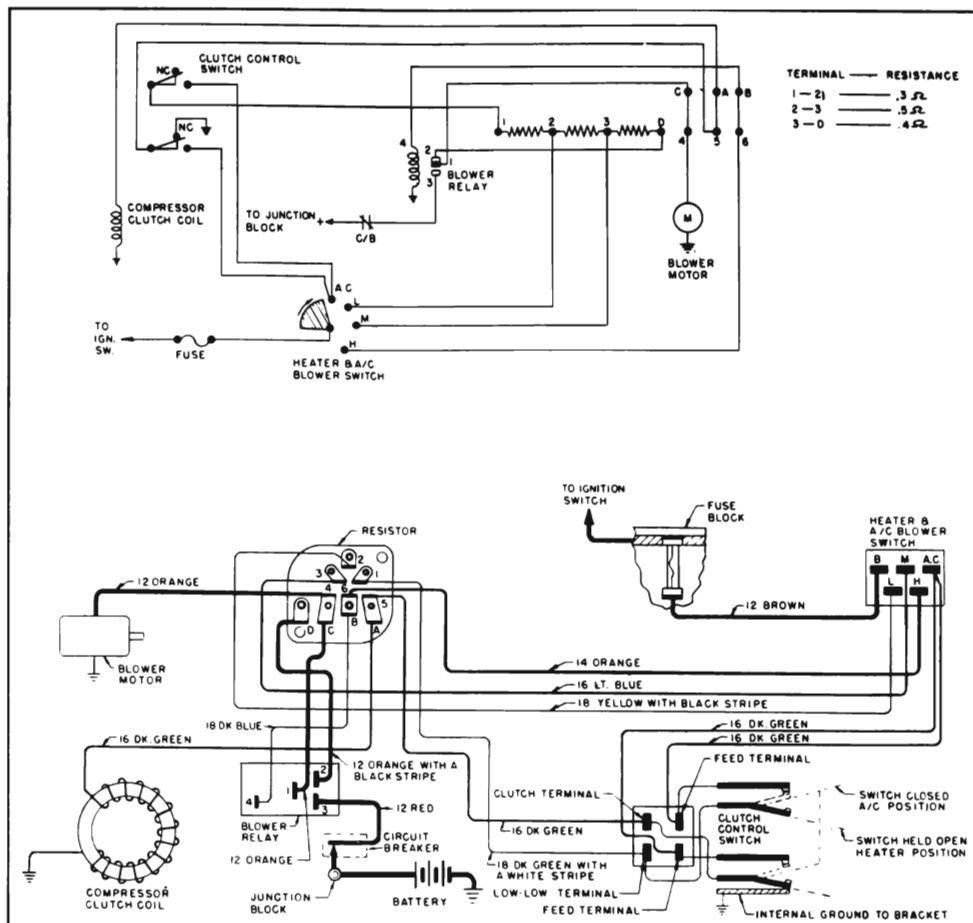

Figure 11-72—Heater-Air Conditioner Schematic - 45000, 46000 and 48000 Series
2. FAN Lever. This lever operates the Heater & A/C Blower switch (see Figure 11-72). When this lever is moved from one extreme to the other, four stops will be felt. Moving from left to right, the 1st stop will provide low-low blower speed (provided the clutch control switch is closed). If the clutch control switch is open the blower will not